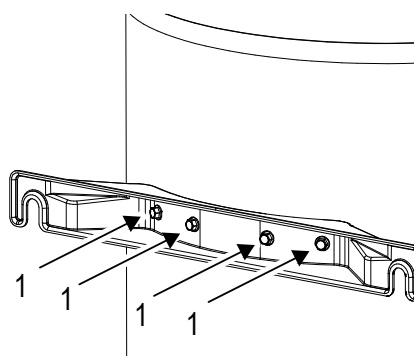

fig. 22
Never (under penalty of invalidating the product warranty) remove the indicated screws (item 1 - fig. 22) to use the wall bracket as a mounting template on site.